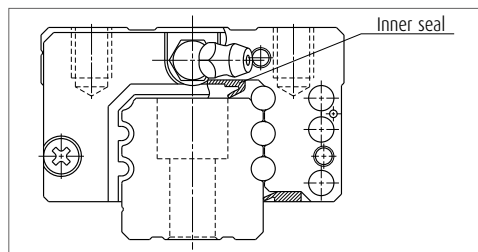

Fig. 7.6 Inner seal when installed
(4) Inner seal
- ▶ The end seal installed on both ends of a slide cannot arrest entire contaminant, though the missed amount is negligible. An inner seal protects the rolling contact surface from such contaminant which entered inside the slide (**Fig. 7.6**).